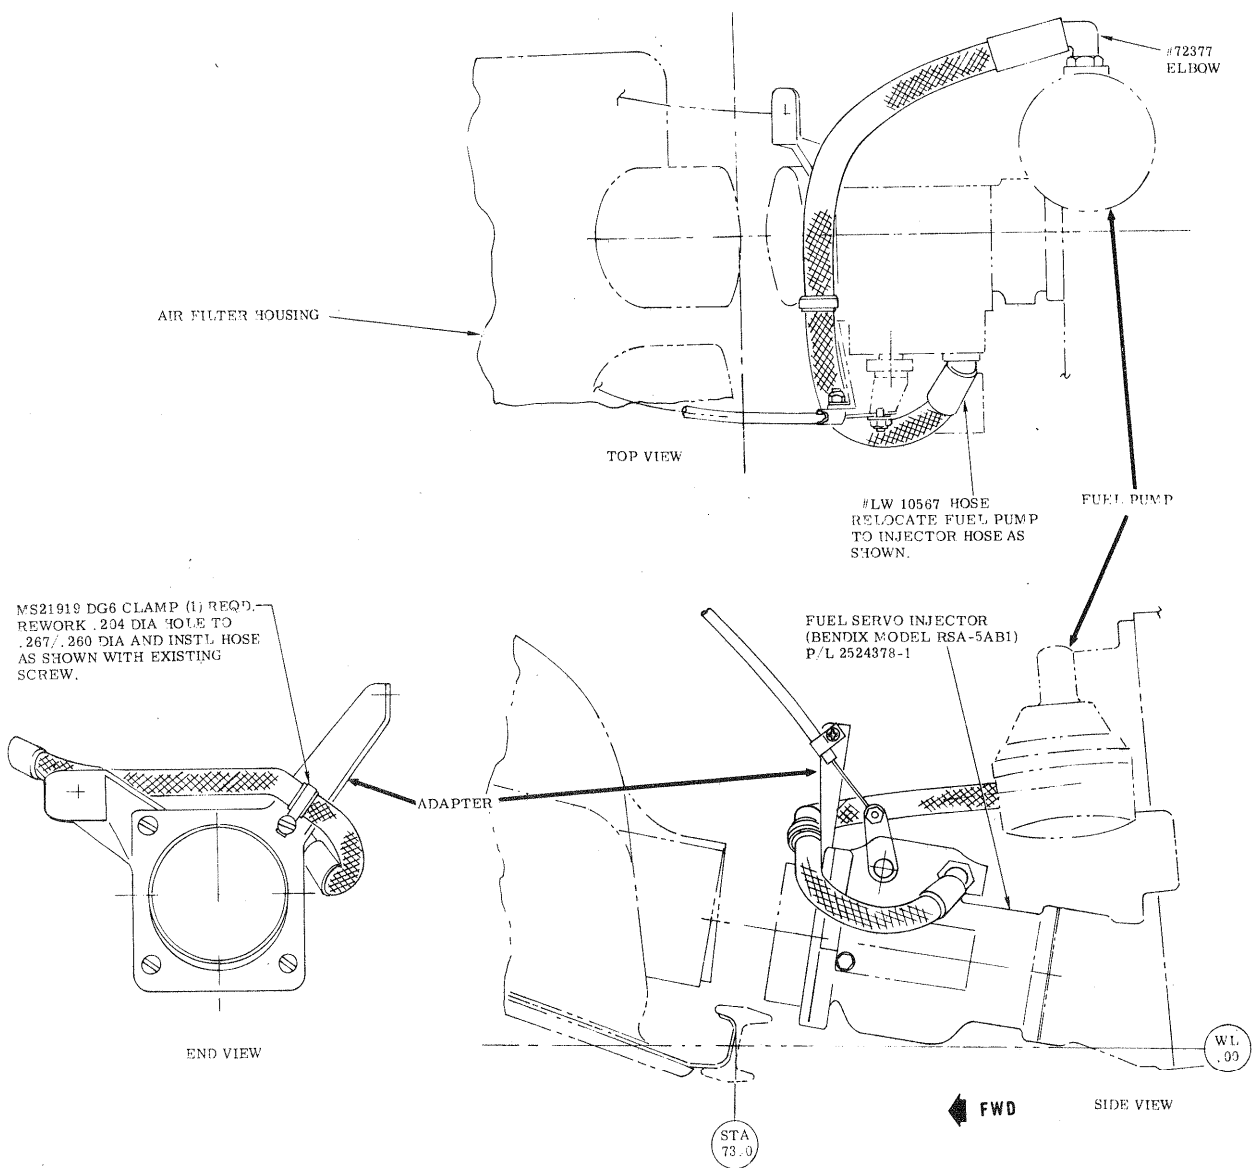

FIGURE 1. INSTALLATION-IMPROVED FUEL INJECTOR ASSEMBLY.
- d. Enlarge hole in MS21919DG6 clamp to 0.267/0.260 inch diameter, using size H drill; deburr hole. (See Figure 1).
- e. Install new LW10567 hose assembly and 72377 elbow to fuel pump injector assembly; route hose assembly as shown in Figure 1.